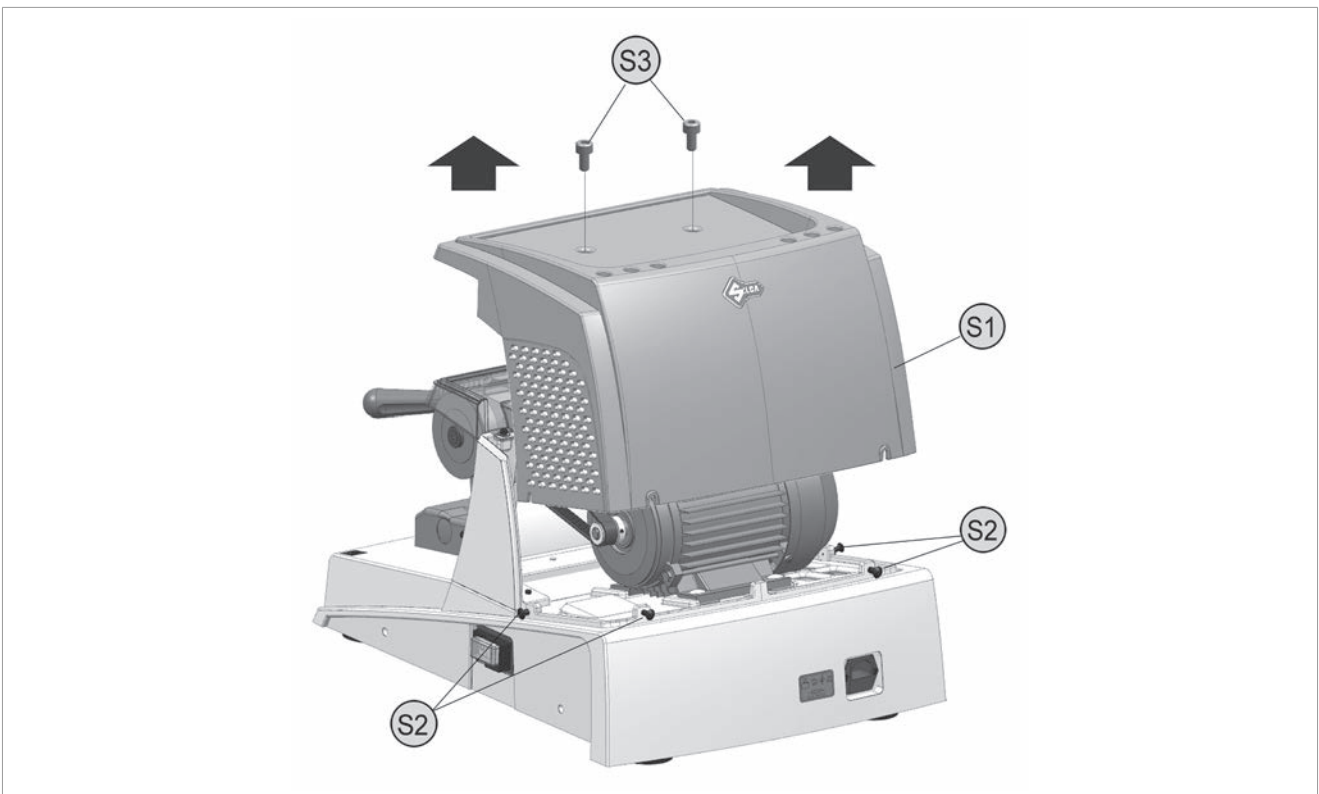

Fig.79
- 2) Loosen the 4 screws (S2), remove the 2 screws (S3) and remove the top cover (S1) (Fig.79).
- 15) Place the machine upright on the worktop and insert the swarf tray (V).
- 16) Secure the top cover with the screws (S2) and (S3) (Fig.79); replace the mat.
- 19) Place the machine upright on the worktop and insert the swarf tray (V).
- 20) Secure the top cover with the screws (S2) and (S3) (Fig.79); replace the mat.